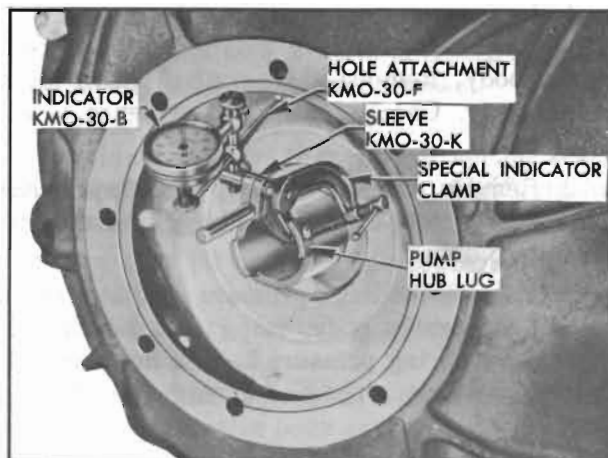

Figure 5-60—Checking Run-Out of Bell Housing Pilot Hole
8. Mount dial indicator and Hole Attachment KMO-30-F to bear against inner edge of pilot hole in housing. See figure 5-60. Run-out of pilot hole should not exceed .004".
10. Set up dial indicator as shown in figure 5-60 and bring pilot hole of housing within .004" run-out by tapping in required direction with lead hammer. If it is not possible to move housing far enough, remove housing and drill bolt holes with $\frac{1}{2}$ " drill. When housing is placed so that pilot hole run-out is .004" or less, tighten all bolts securely.